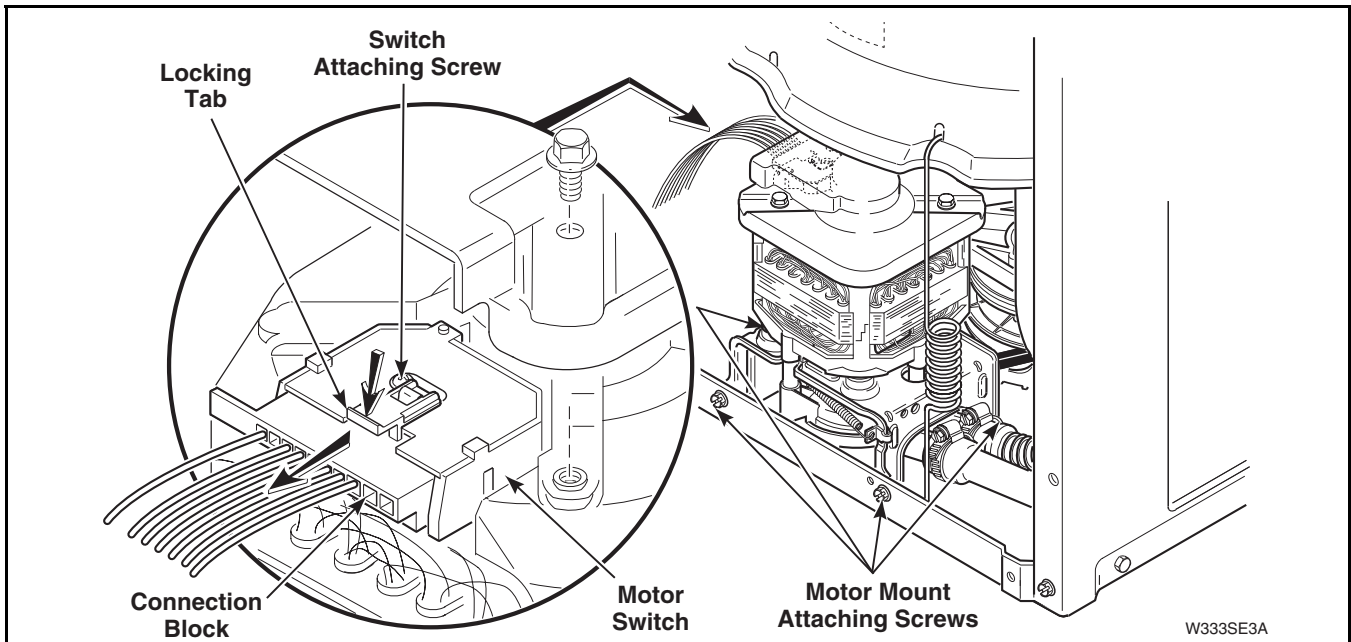

Figure 22
- Disconnect wire harness from motor switch by pressing down on locking tab on top of connection block and at the same time pull connection block away from motor switch. Refer to *Figure 22*.
- Remove four screws holding motor and mounting bracket to washer base. Refer to *Figure 22*, then lift complete assembly out of washer.
connection block and at the same time pull connection block away from motor switch. Refer to *Figure 22*.
- g. Remove four screws holding motor assembly to washer base. Refer to *Figure 22*, then lift complete assembly out of water.
- c. Loosen hose clamps and remove hoses from pump assembly. Refer to *Figure 22*.
- f. Disconnect wire harness from motor switch by pressing down on locking tab on top of connection block and at the same time pull connection block away from motor switch. Refer to *Figure 22*.
- g. Remove four screws holding motor assembly to washer base. Refer to *Figure 22*, then lift complete assembly out of washer.
- Remove screw holding motor switch to motor. Refer to *Figure 22*, and remove switch.